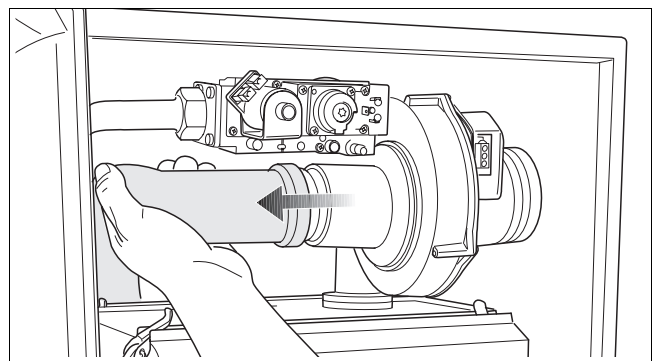

fig. 5 Pulling the air suction tube from the fan
- Pull the air suction tube from the fan (fig. 5).